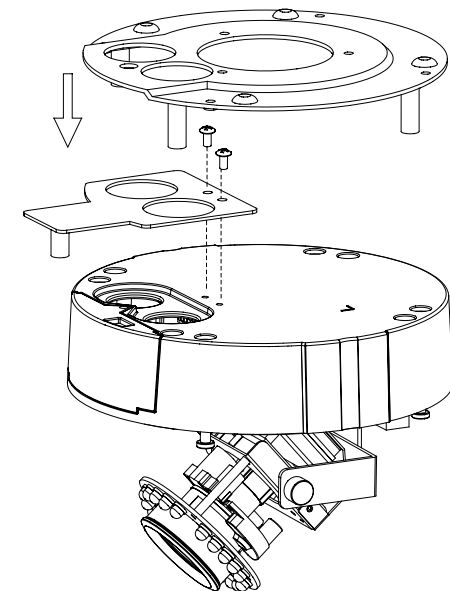

Figure 2.4
4. Attach the dual-holed plate to the base of the camera. (Figure 2.4)